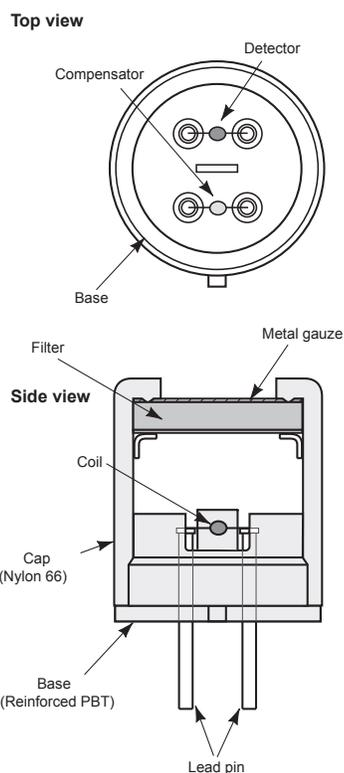

Fig. 1 - Sensor structure
Figure 1 shows the structure of TGS6812-D00. The sensor is comprised of two elements: element (D) which is sensitive to combustible gases, and a reference element (C) which does not have sensitivity to combustible gases. The sensing element (D) is made of alumina doped with catalysts, while the reference element (C) is made of alumina. Both coils are made of Pt wire, and the wires of both elements (D) and (C) are connected to nickel pins No. 2 & 3 and No. 1 & 4 respectively. The sensor base is made of reinforced Polybutylene Terephthalate (PBT) while the sensor cap is made of Nylon 66. The upper opening in the cap is covered with a double layer of 100 mesh stainless steel gauze (SUS316). The TGS6812-D00 utilizes a proprietary filter material inside the cap for reducing the influence of interference gases.